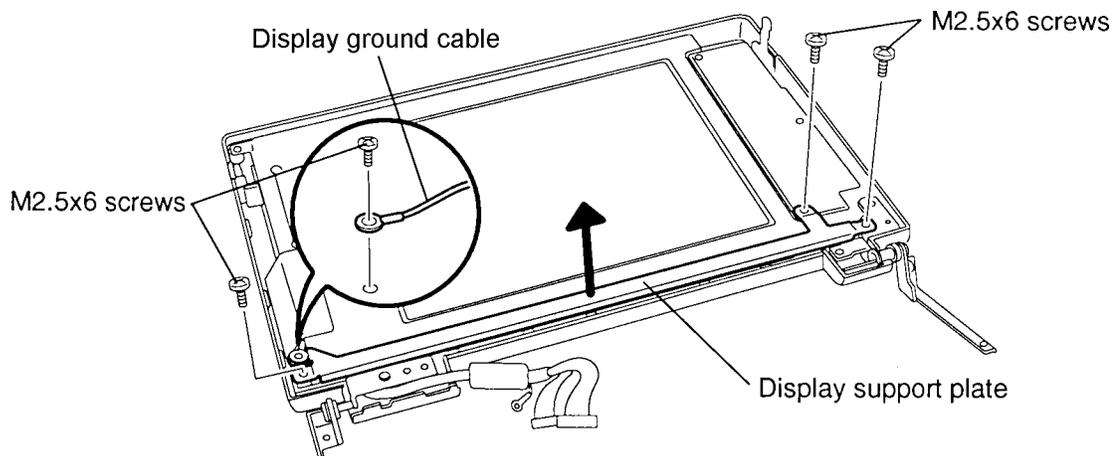

Figure 4-26 Removing the Display Support Plate
To remove the T1960CS's FL inverter board, follow the steps below and refer to Figures 4-26 and 4-27.
3. Remove the **four M2.5x6 screws** securing the **display support plate** (Figure 4-26).
To install the T1960CS's FL inverter board, follow the steps below and refer to Figures 4-26 and 4-27.
4. Set the **display support plate** in place and secure it with **four M2.5x6 screws**. One screw also secures the **display ground cable** (Figure 4-26).